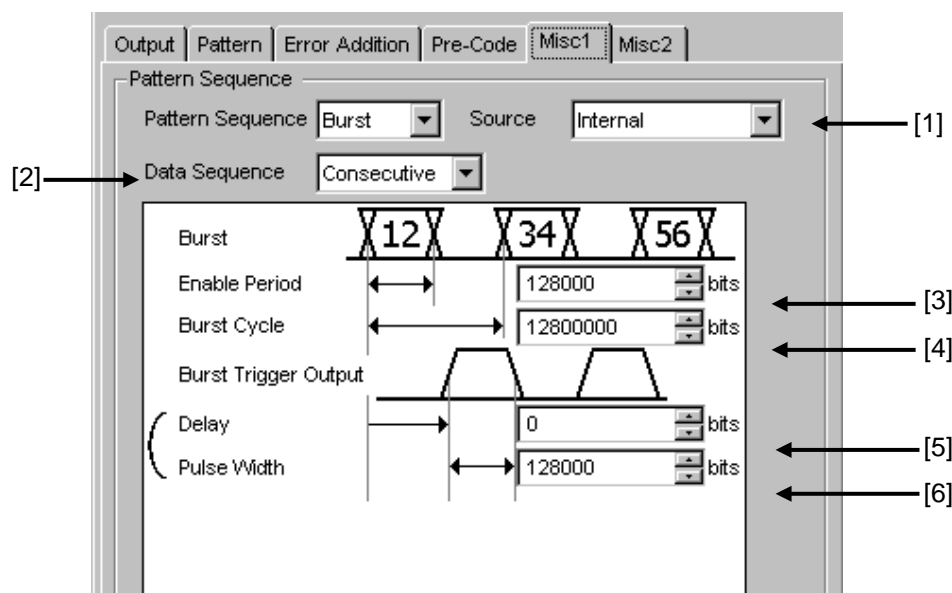

Figure 5.5.1.2-1 Setting items for Burst pattern sequence
- [3] When **External-Trigger** or **Internal** is selected from the Source drop-down list ([1] in Figure 5.5.1.2-1), set the continuous signal generation period for the Burst cycle of the test pattern to be input to the AUX Input connector, by entering the number of bits in the Enabled Period box.